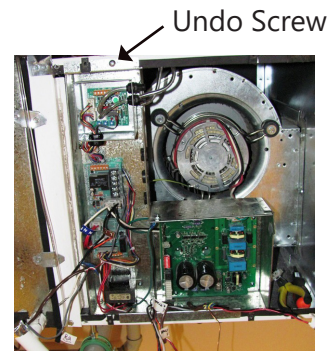

Fig. 5a - Undo Screw
5. Remove all thermostat and power wiring from the air handler. Undo screw on L-Shape box and remove box from air handler. (Fig. 5a)